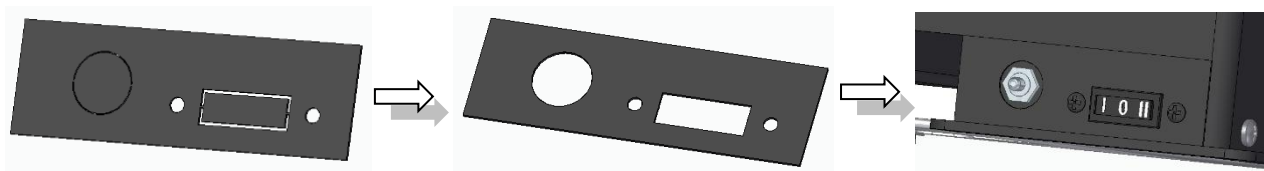

Figure 53 – Micro-switch attachment and On-Off button
c. Finally, you must put the micro-switch and the On-Off button in place, as shown in Figure 53, You must first break the micro-joints of the plate located inside the equipment, in the lower right-hand corner, to secure the components